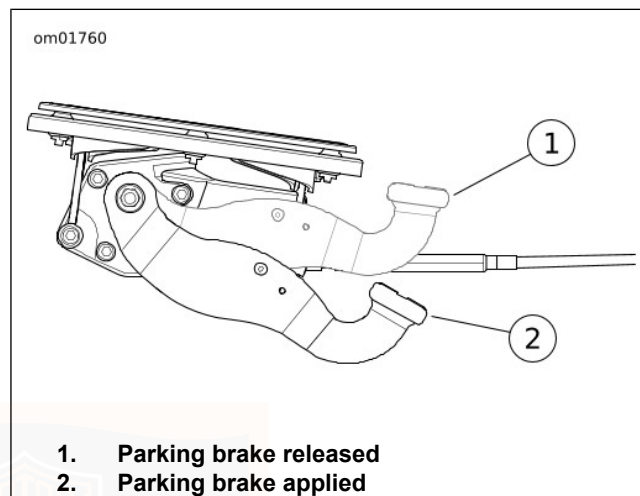

Figure 20. Parking Brake
See Figure 20. The parking brake pedal is on the left side of vehicle. The parking brake mechanically engages brakes for both rear wheels preventing the vehicle from rolling when parked. The parking brake indicator lamp turns on when the parking brake is applied.
4. See Figure 20. With the left foot, firmly push down the parking brake pedal until it cannot be pushed any further.
2. See Figure 20. With the left foot, firmly press the parking brake pedal and release. The parking brake returns to the released position.